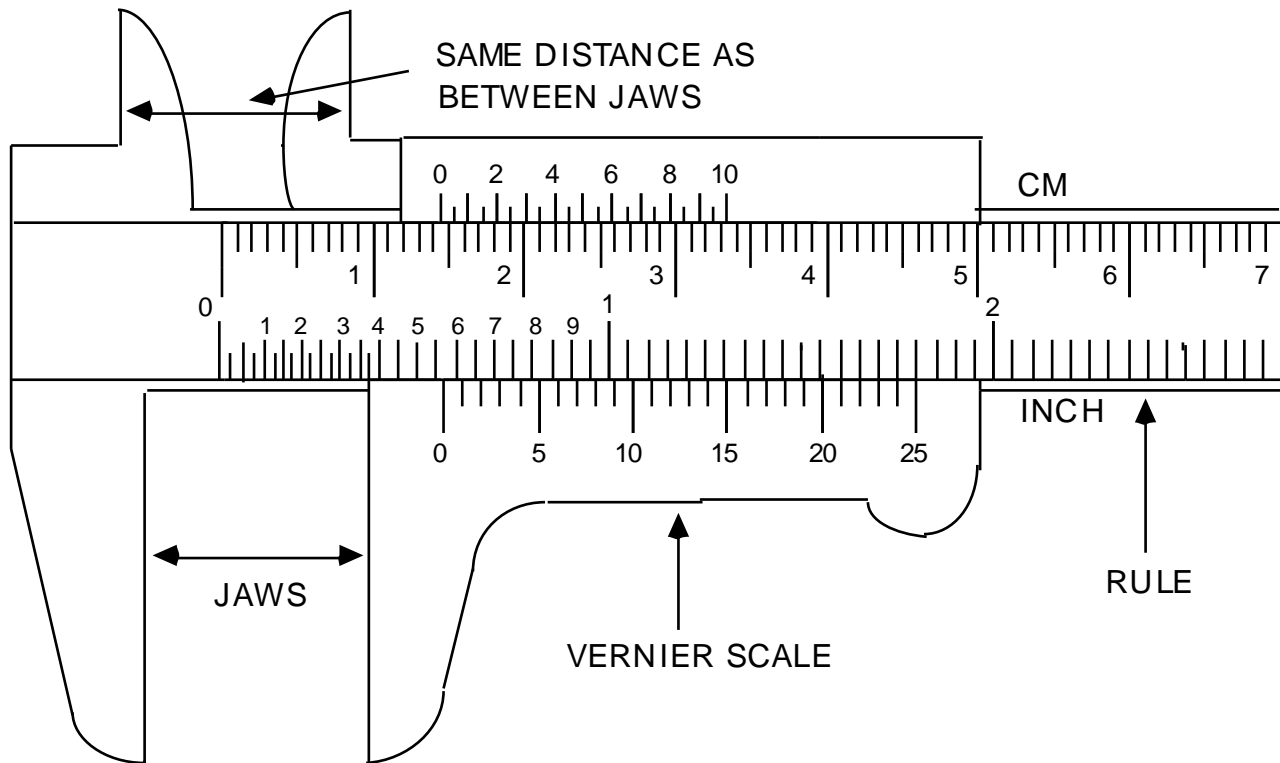

Figure 1: Vernier Caliper
Looking at the vernier caliper in Fig. 1, notice that while the units on the rule portion are similar to those on an ordinary metric ruler, the gradations on the vernier scale are slightly different. The number of vernier gradations is always one more than the number on rule for the same distance. The line on the vernier which is aligned with one on the rule tells us the fraction of the units on the rule.
- (1) Roll the thumb wheel until the jaws are completely closed (touching each other). Now check whether the caliper is reading exactly zero. If not, record the caliper reading, and subtract this number from each measurement you make with the caliper.
- (2) Use either the inside edges of the jaws, or the outside edges of the two prongs at the top of the caliper to make your measurement. Do not use the tips of the prongs. Roll the thumb wheel until these surfaces line up with the end points of the distance you are measuring.
- (3) To read the caliper:
- (a) record the numbers which correspond to the last line on the rule which falls before the index line (marked as 0) on the vernier scale. In Fig 1, this would be 1.4 cm since the index line falls after the 1.4 cm line and before the 1.5 cm line.
- (b) count to the right on the vernier scale until you reach a vernier line which lines up with a line on the rule and record the number of this vernier line as your last digit. In Fig 1, it is the vernier line marked 4 (rather than the 4.5 line, say) which is aligned with one on the rule. The full vernier scale corresponds to one small division on the main scale, that is, .1 mm, so the vernier tells us to add  $.4 * .1 = .04\text{cm}$ , so the whole distance is 1.440 cm.
*Alas, the inch scale vernier of Fig 1 is not marked correctly; the correct corresponding reading would be .567 inches, so the inch vernier should have lined up at about 17 instead of 25:  $.55\text{ inches} + .017\text{inches}$ ).*